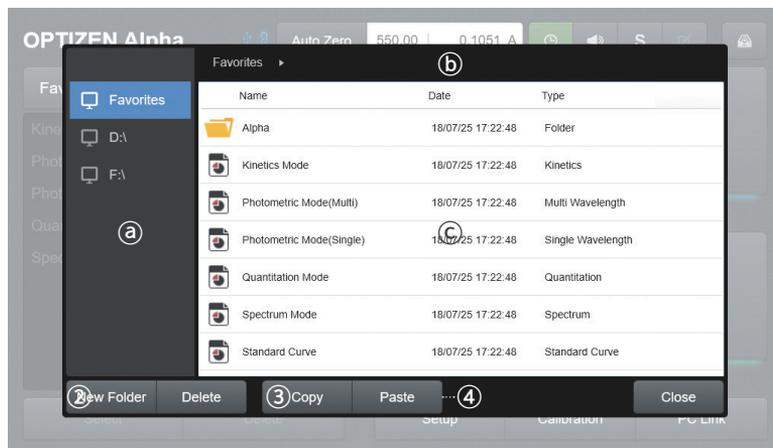

Fig. 8.4 (a) Drive list / (c) Data in pertaining drive / (b) Current folder location
2. [Fig. 8.4] Select a drive from the ① drive list that includes a file to copy.
3. [Fig. 8.4] Select the previous folder name in ② to return to the previous folder.
4. [Fig. 8.4] Click and select a file to copy in the ③ file list.
5. [Fig. 8.4] Press ④ **Copy** to copy a file.
6. [Fig. 8.4] Select a drive and folder from the ① and ③ list. (Or press ② **New Folder** to create a new folder.)
7. [Fig. 8.4] Press ④ **Paste** to finish pasting the file.